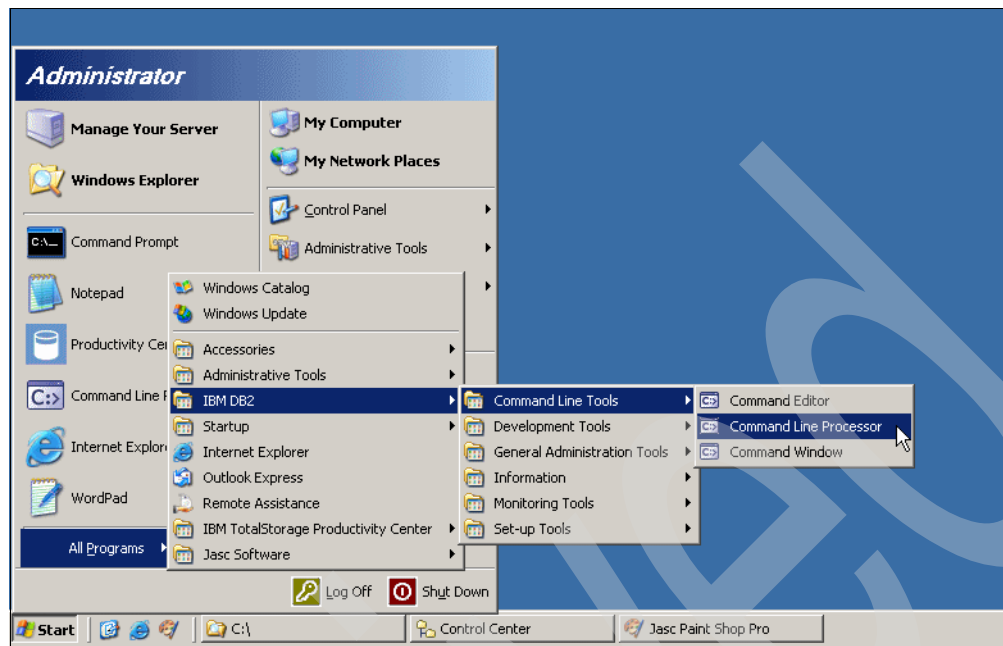

Figure 3-1 Launch the DB2 command line processor
2. Start a DB2 command line processor window as shown in Figure 3-1.